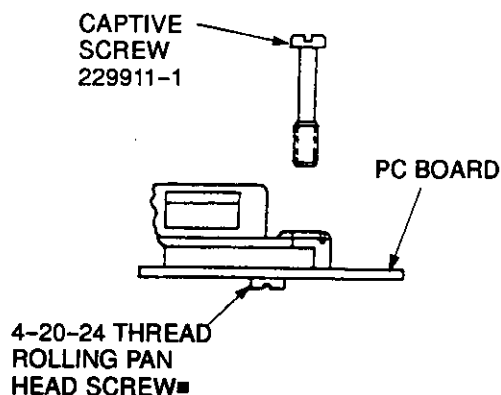

Figure 9
**B. Captive Screws (Figure 9)**